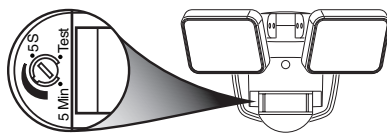

Figure 7
- Turn the control dial to set the amount of time you want the lights to stay on after all motion has stopped (adjustable between 5 seconds and 5 minutes) (see Figure 7). *Note:* When set between 5 seconds and 5 minutes, the light fixture will only work after dark (sunset).